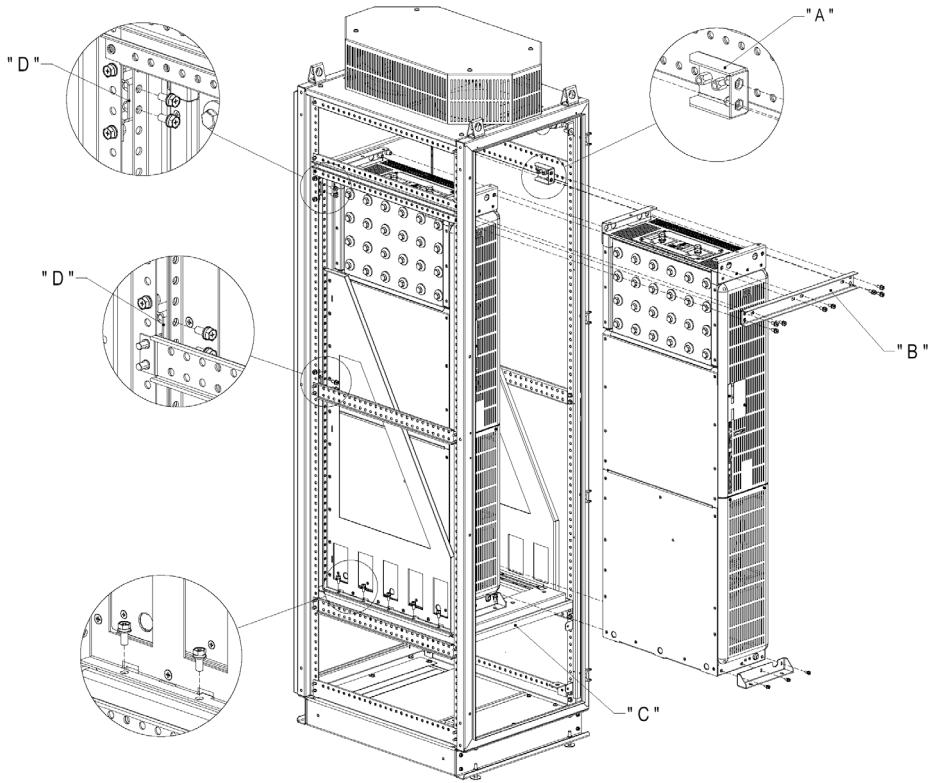

Figure 7 - Details for mounting the Rack 2 in a 600 mm (23.6 in) wide cabinet
- Installation of the rack inside the cabinet according to figures 7 and 8.